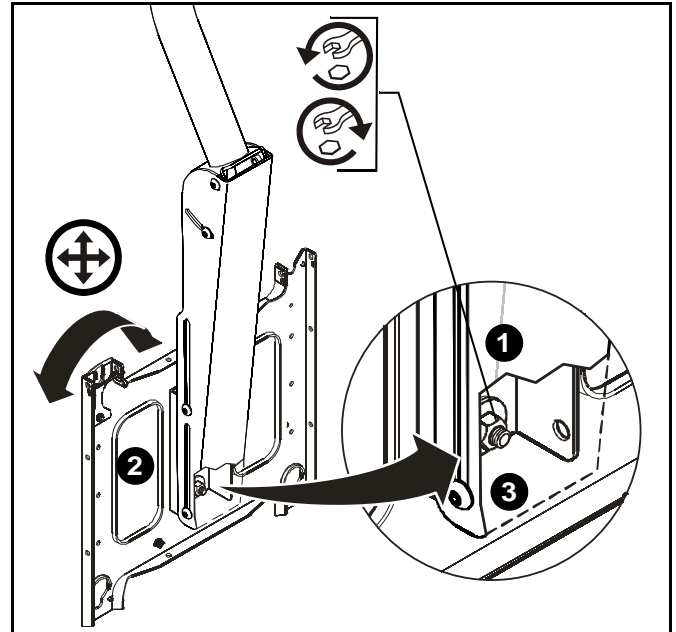

Figure 7
1. Loosen 3/8-16 Nylock nut. (See Figure 7)
2. Adjust faceplate to desired position. (See Figure 7)
3. Tighten 3/8-16 Nylock nut. (See Figure 7)